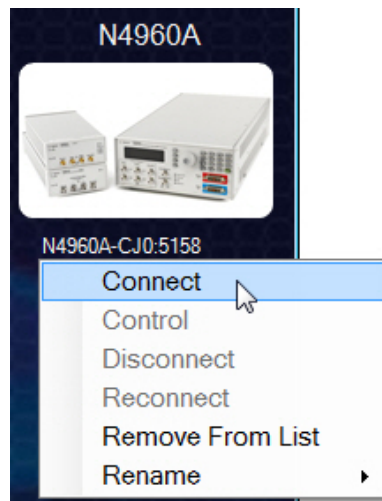

Figure 25. Connecting a single instrument
2. Right-click on the instrument name/serial number located below the image of the instrument to access the pop-up menu shown in Figure 25 then click on **Connect**.